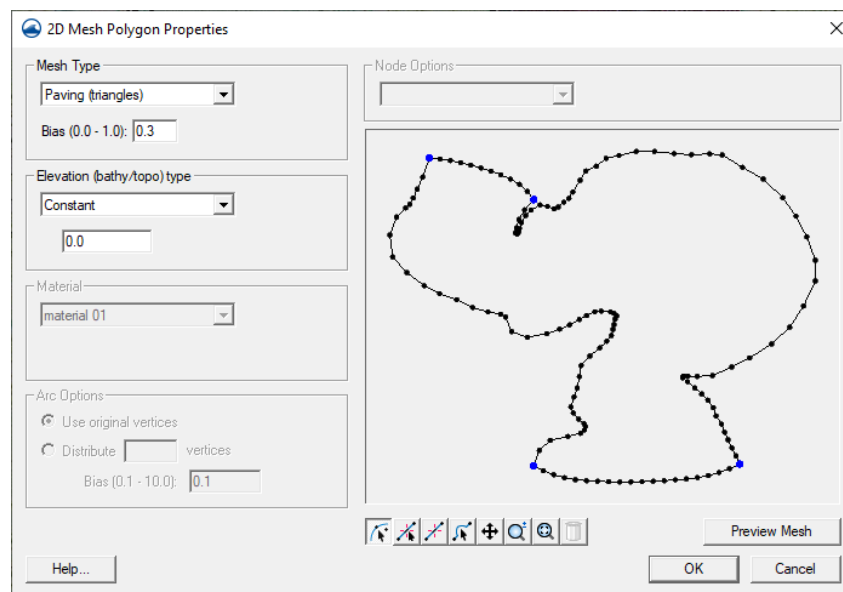

Figure 3 2D Mesh Polygon Properties dialog
11. Using the **Select Polygon**  tool, double-click inside the polygon to open the *2D Mesh Polygon Properties* dialog (Figure 3).